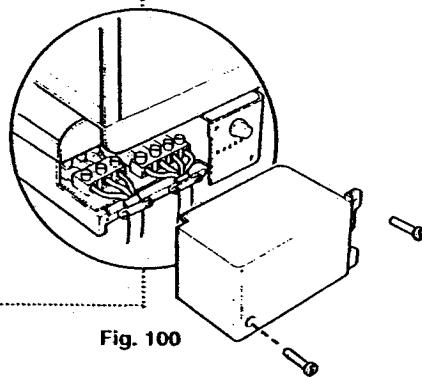

Fig. 100
2. Remove the cover from the front of the controls box (Fig. 100).